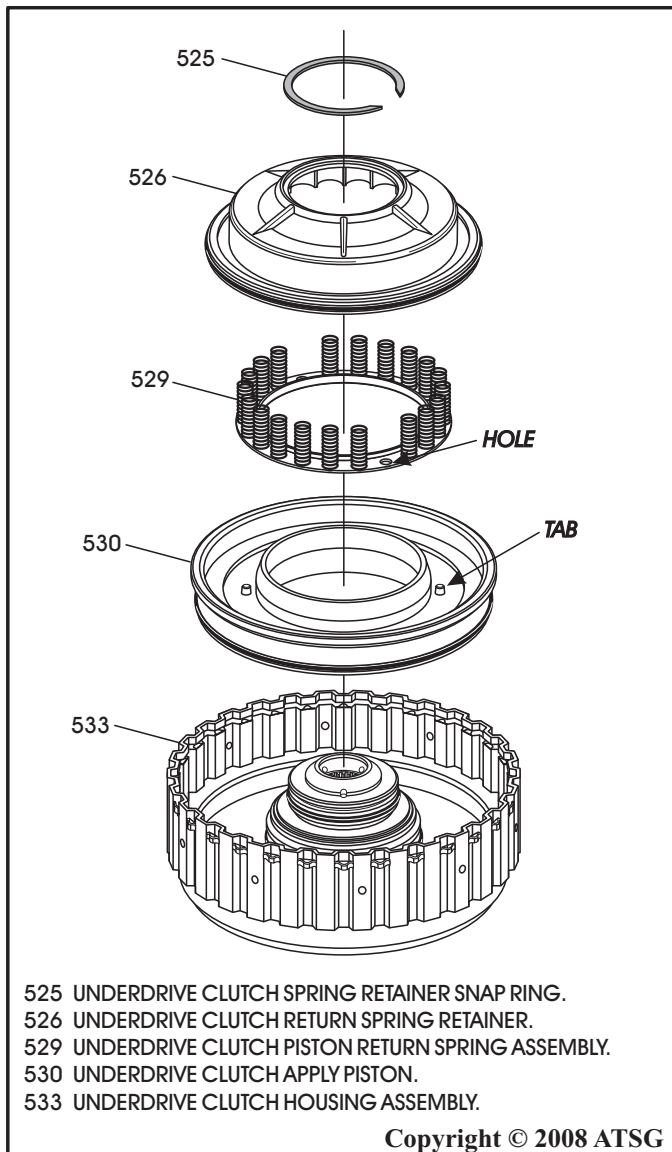

Figure 123
8. Lube the seals and install the underdrive clutch piston into housing, as shown in Figure 123.
9. Install underdrive clutch piston return spring assembly, as shown in Figure 123.
Note: Ensure that holes in the return spring are aligned with the tabs on piston, as shown in Figure 123.
10. Lube the seals and install the underdrive clutch return spring retainer (See Figure 123).
11. Compress the assembly and install snap ring, as shown in Figure 123, and ensure that it is fully seated.